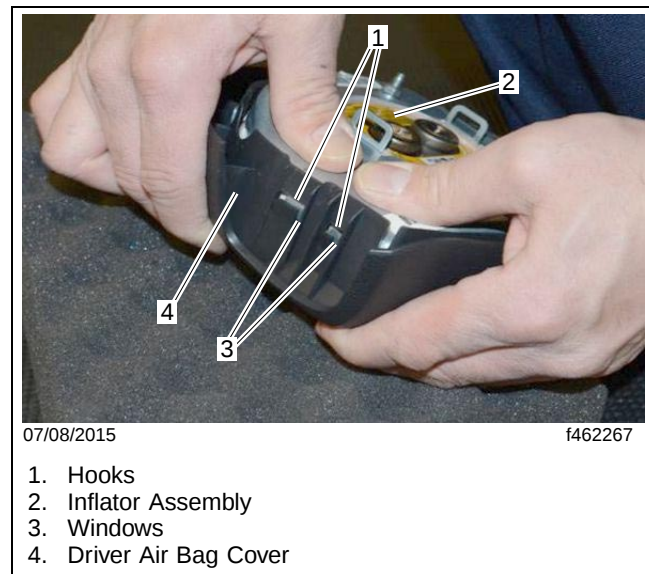

Fig. 4, Disengaging the Left-Side Inflator Assembly Hooks
- 12.1 Starting with the left side, press down on the inflator assembly until the hooks unsnap from the windows. See **Fig. 4**.